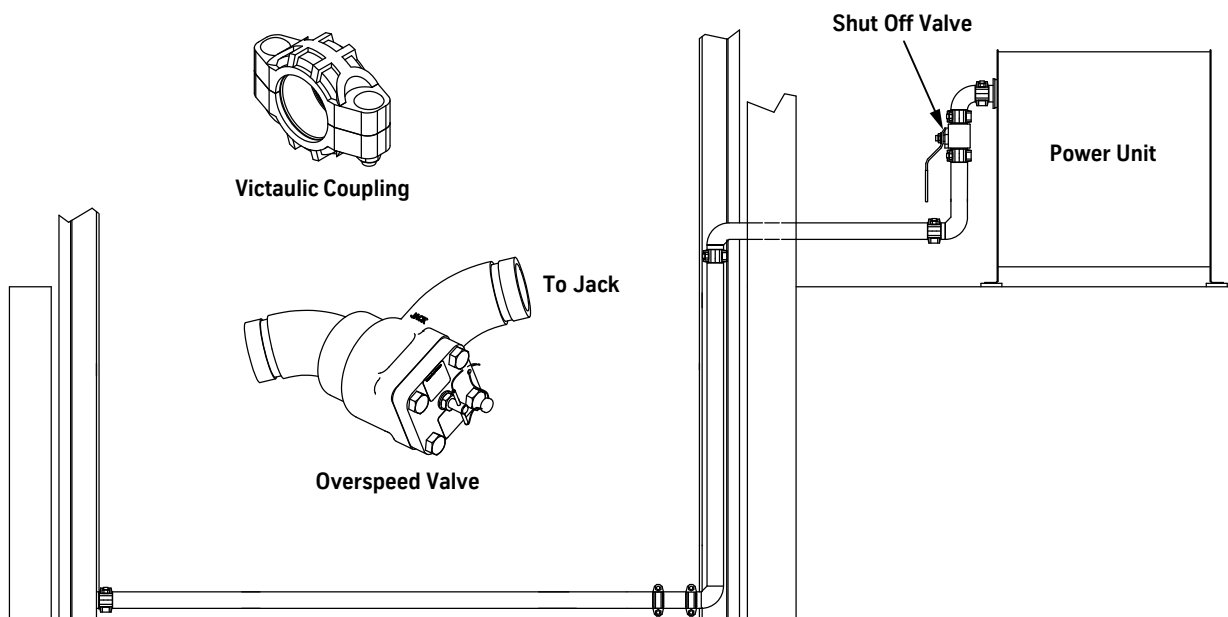
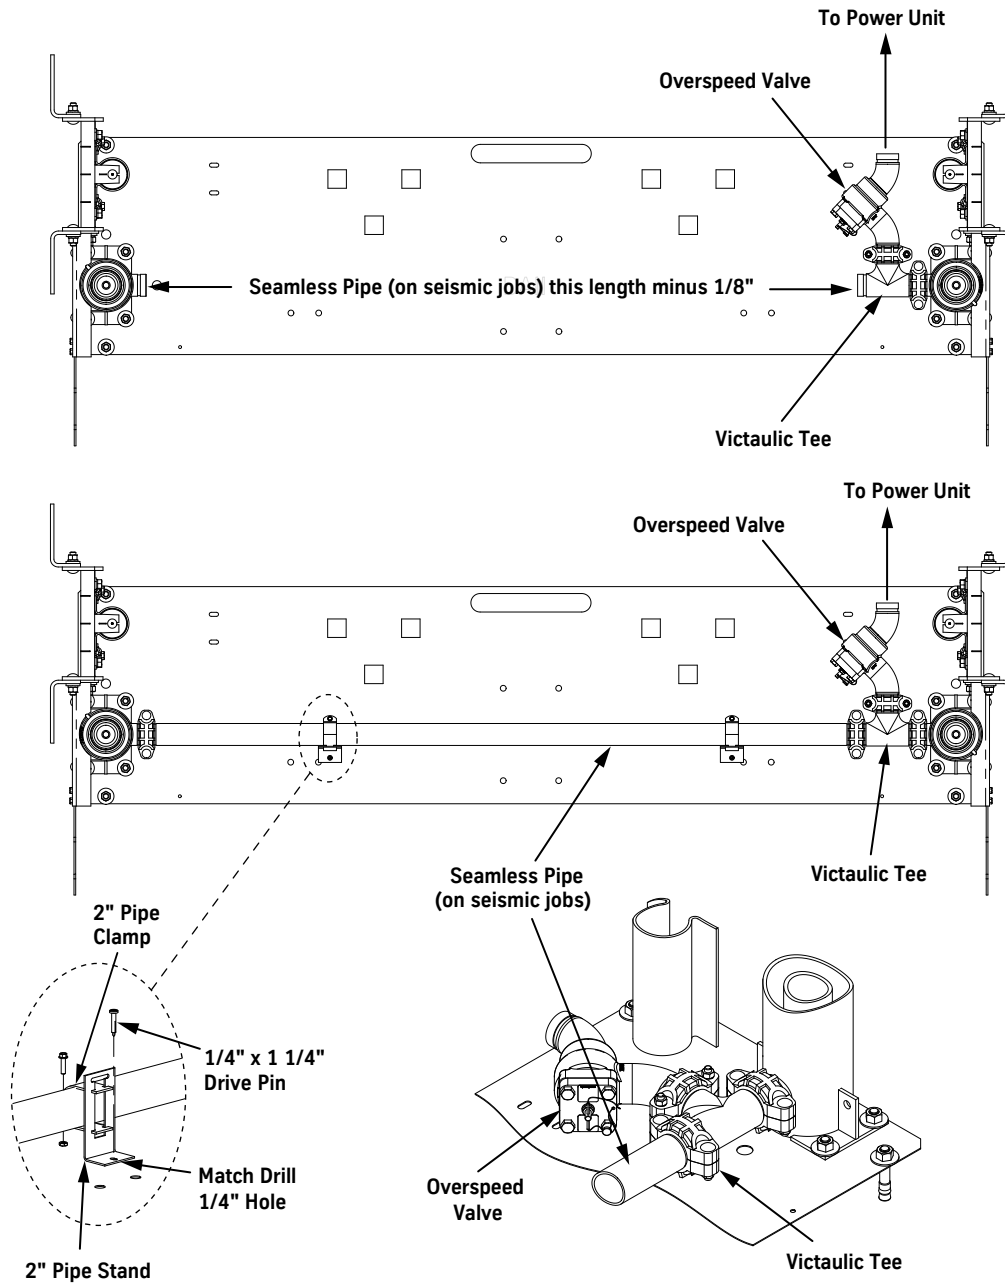

Figure 38 - Piping Installation from the Jack to the Power Unit
Figure 39 - Piping Between the Jacks
2. Start installation with the jack that is nearest to the oil line that enters the hoistway, and install the Victaulic tee on that jack. See Figure 38 below, and Figure 39 on page 1-54.